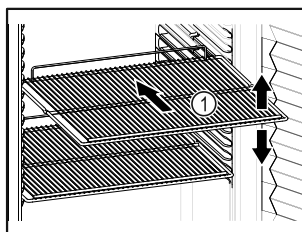

Fig. 48 Example illustration
- If storage surfaces Fig. 48 (1) are movable, adjust them according to height.